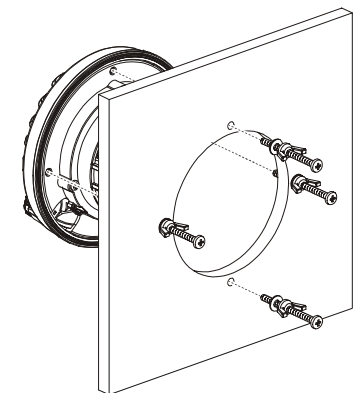

Figure 5
5. Referring to Figure 5, pass through the four M4x50 Screws (with Nut and Washer) into the mounting holes on the panel from the back side and turn the M4x50 Screws five times.